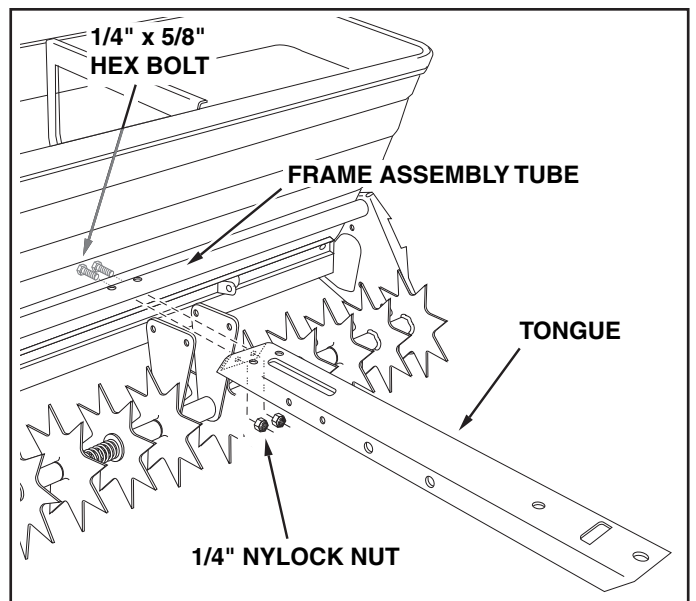

FIGURE 1
2. Assemble the end of the tongue to the hopper as shown in figure 1 using two 1/4" x 5/8" hex bolts and 1/4" hex nuts. The holes are located just below the frame assembly tube. **Do not tighten yet.**